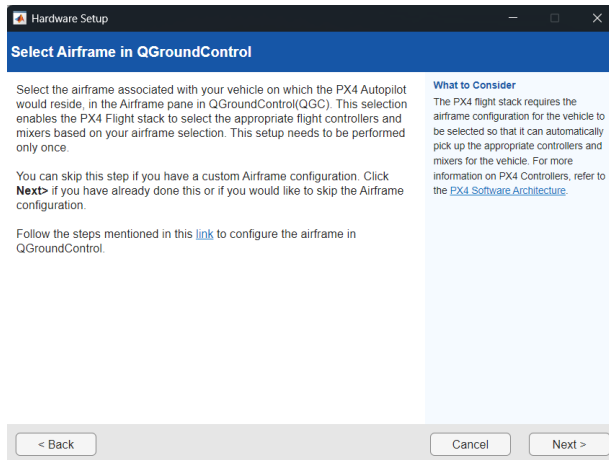

Figure B.11: Screenshot of the QGC airframe selection notice window.
13. The airframe selection screen shown in Figure B.11 serves as a notice. For the purposes of this step, no action needs to be taken.